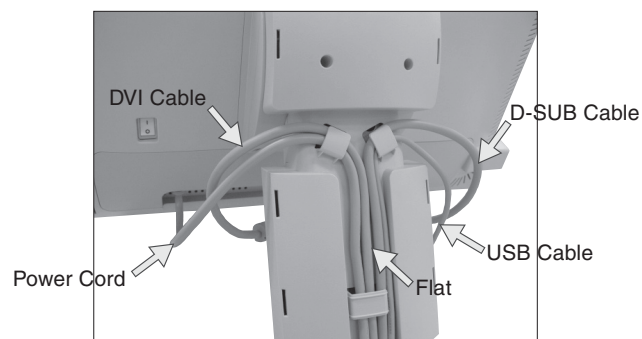

Figure C.4
7. For successful cable management, place the cables in this order into the cable management: Power cord and DVI cable (**Figure C.4**).
8. Place DVI cable and power cord into the specific hooks indicated in **Figure C.4**.
9. Place the D-Sub and the USB cable into the specific hooks indicated in **Figure C.4**.
10. Make sure all cables are resting flat against the stand (**Figure C.4**).